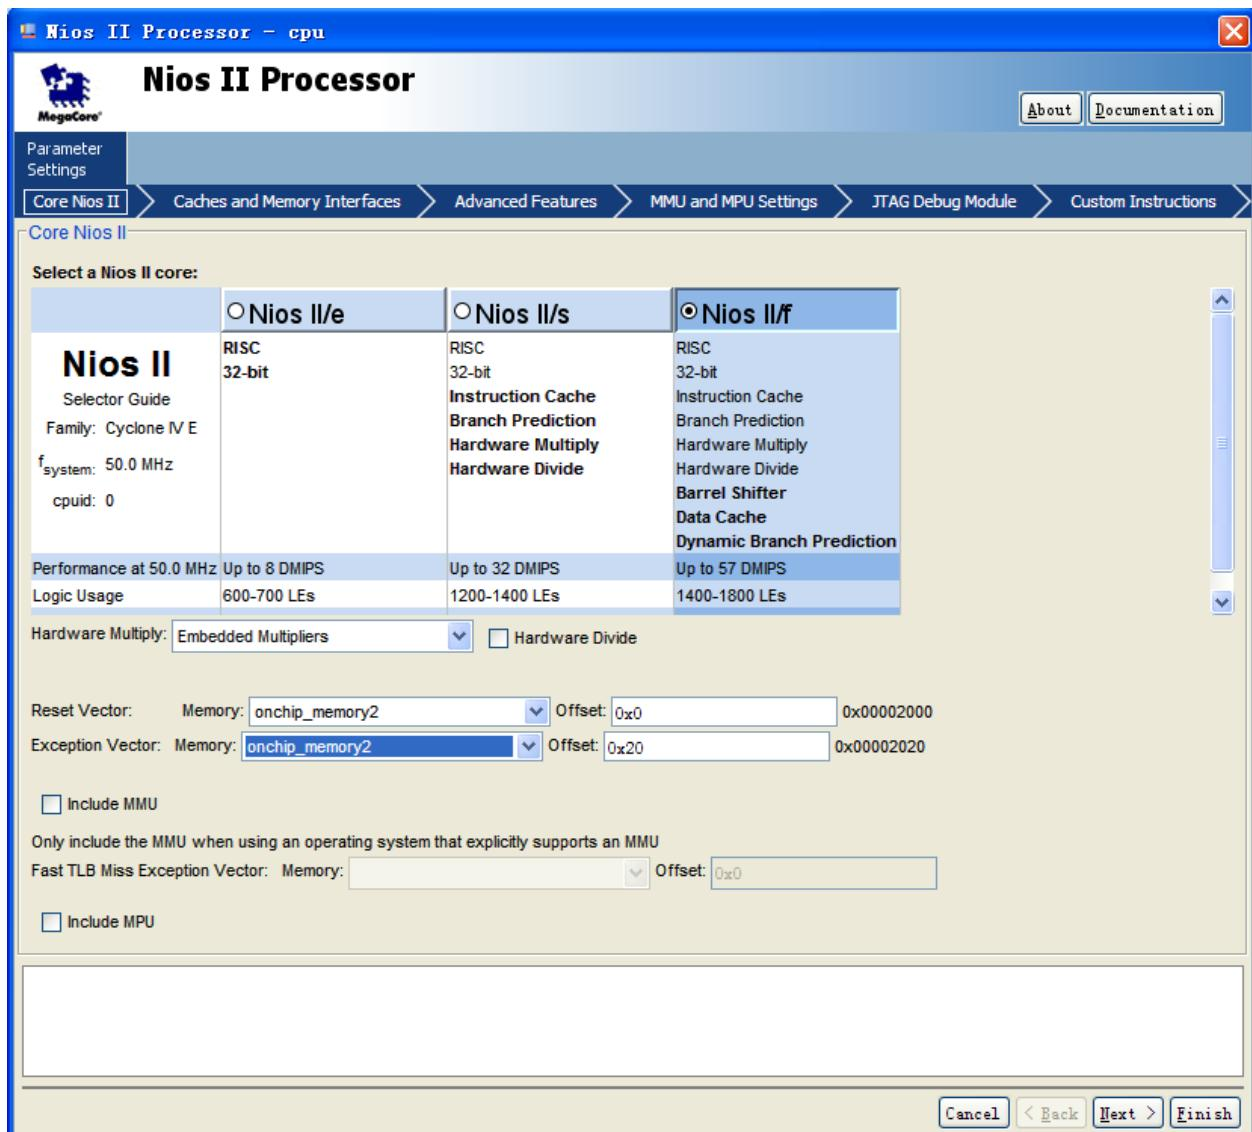
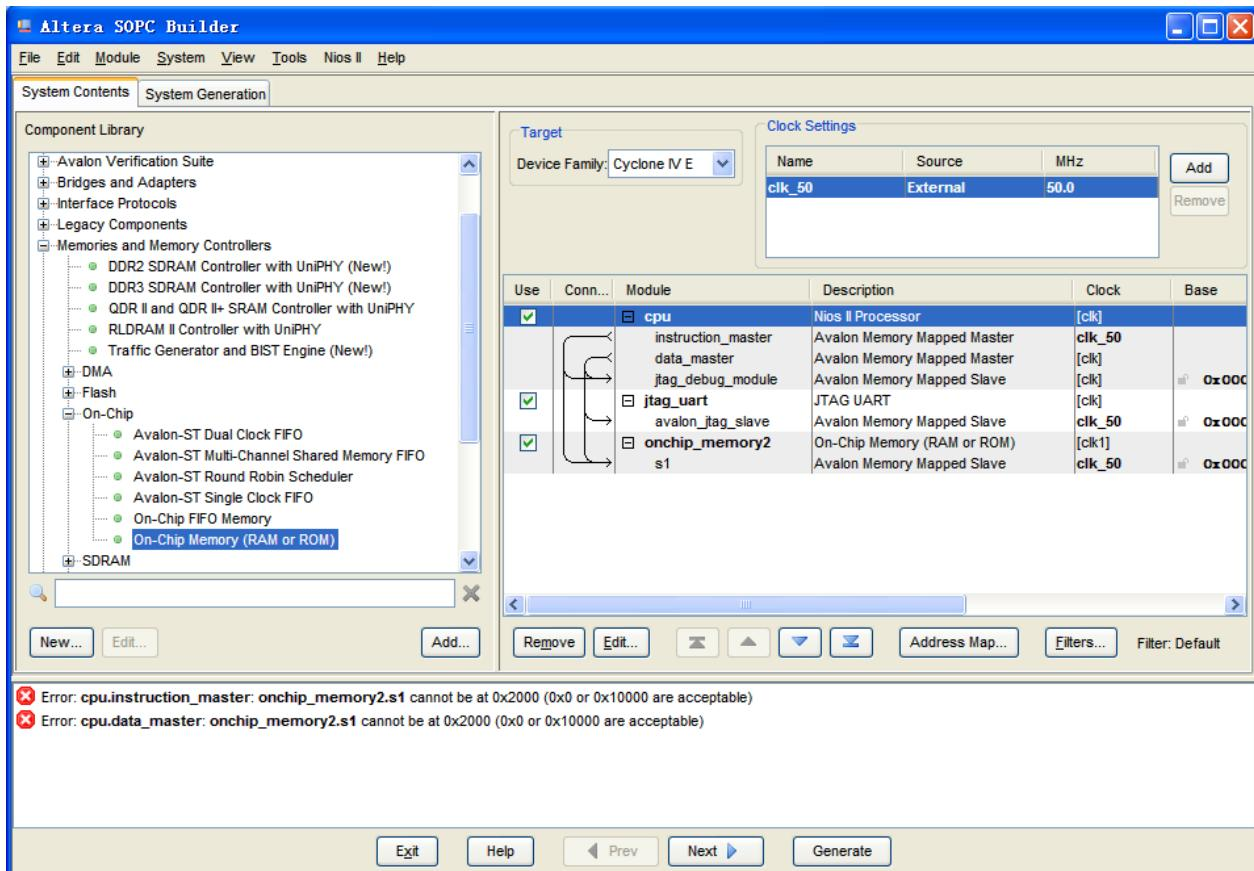

Figure 7-28 Update CPU settings
Figure 7-29 Updated CPU settings
18. Right click on the **cpu** component table and select **Edit...** from the list. Update the Reset Vector and Exception Vector as shown in **Figure 7-28**. Then, click **Finish** to return to the window as shown **Figure 7-29**.